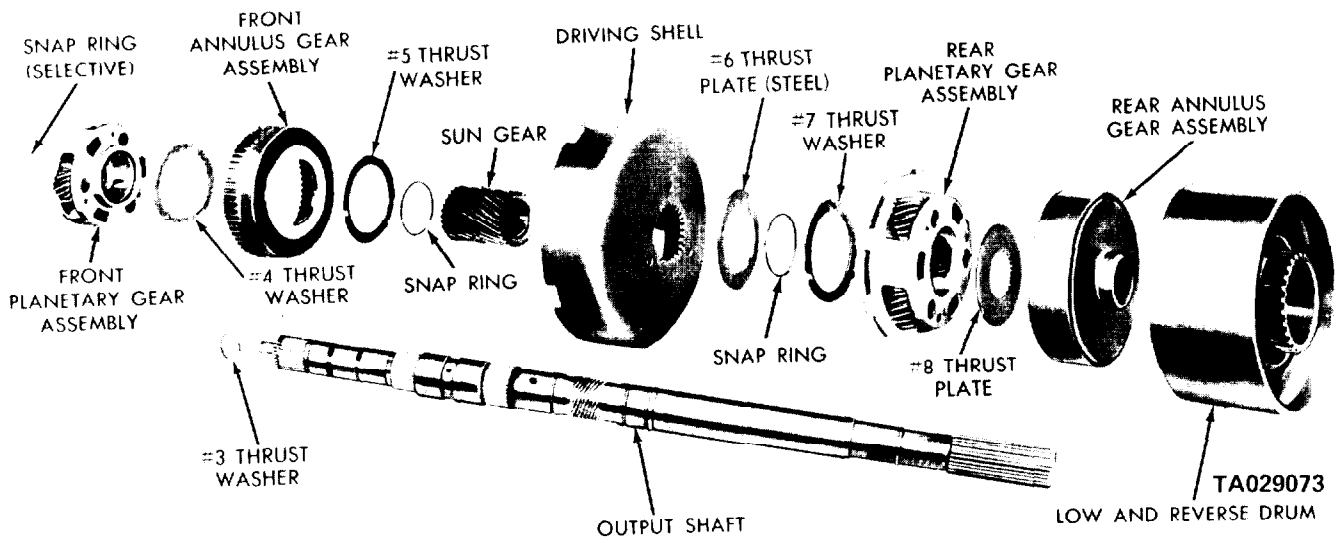
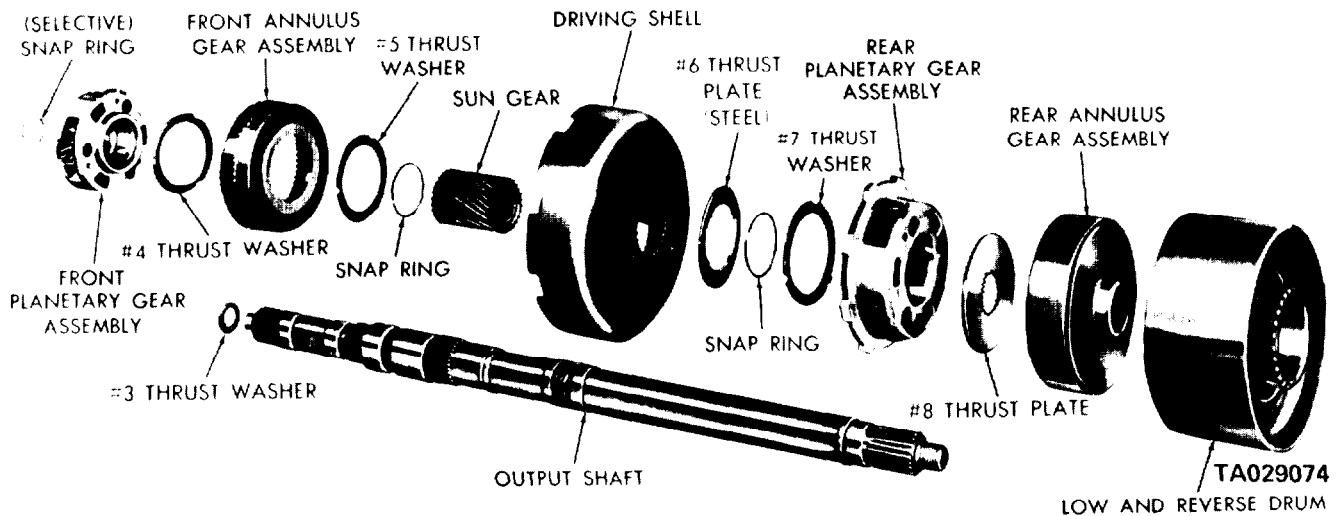
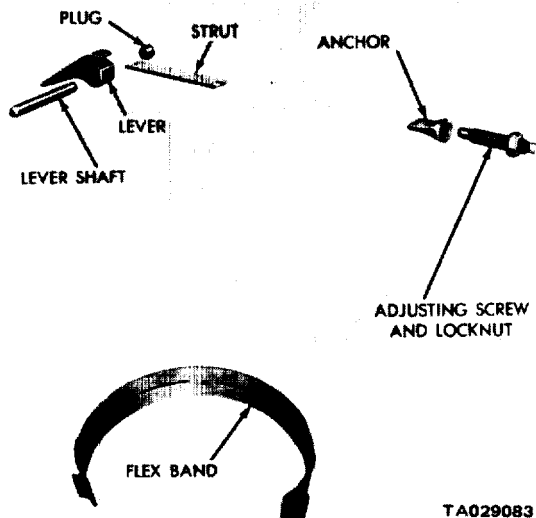

Figure 18-22. Planetary Gear Train and Output Shaft (4X2 Models).
Figure 18-23. Planetary Gear Train and Output Shaft (4X4 Models).
Figure 18-32. Kickdown Band and Linkage.
(1) Remove the thrust washer from the forward end of the output shaft (figure 18-22 for 4X2 models and figure 18-23 for 4X4 models).
(2) Remove the selective snap ring from the forward end of the output shaft. Slide the front planetary assembly off the shaft.
(3) Slide the front annulus gear off the planetary gear set. Remove the thrust washer from the rear side of the planetary gear set.
(4) Slide the sun gear, driving shell, and rear planetary assembly off the output shaft.
(5) Lift the sun gear and driving shell off the rear planetary gear assembly. Remove the thrust washers from inside the driving shell. Remove the snap ring and steel washer from the sun gear (rear side of the driving shell) and slide the sun gear out of the shell. Remove the front snap ring from
- (1) Inspect the bearing surfaces on the output shaft for nicks, burrs, scores, or other damage. Light scratches, small nicks, or burrs can be removed with crocus cloth or a fine stone.
- (2) Check the speedometer drive gear for any nicks or burrs. Remove them with a sharp-edged stone.
- (3) Make sure all oil passages in the shaft are open and clean.
- (4) inspect the sun gear bushings for wear or scores. Replace the sun gear assembly if the bushings are damaged.
(5) Inspect all thrust washers for wear and scoring. Replace them if they are damaged or worn beyond the limits given in table 18-3.
(6) Check the planetary gear carrier thrust faces for wear, scores, or other damage. Replace as necessary.
(7) Check the planetary gear carrier for cracks. Look for worn or broken gear teeth on the pinion lockpins.
(8) Inspect the annulus gear and driving gear teeth for damage.
(9) Replace distorted lockrings.
d. Assembly. See figure 18-23 for parts identification.
- (1) Install the rear annulus gear on the output shaft. Apply a thin coat of grease on the thrust plate. Place it on
f. *Front and Rear Clutch Assemblies.* The front and rear clutches, front band, oil pump, and reaction shaft support are more easily installed with the transmission in an upright position. One method to support the transmission is outlined in steps (1) and (2), below.
(1) Cut a 3-1/2-inch diameter hole in a bench, in the end of a small oil drum, or in a large wooden box strong enough to support the transmission. Cut or file the notches at the edge of the hole so the output shaft support will lay flat in the hole.
(2) Carefully insert the output shaft into the hole to support the transmission upright, with its weight resting on the flange of the output shaft support.
(3) Apply a coat of grease on the input to output shaft thrust washer (figures 18-22 and 18-23), and install the washer on the front end of the output shaft.
(4) Align the front clutch plate inner splines, and place the assembly in position on the rear clutch. Make sure the front clutch plate splines are fully engaged on the rear clutch splines.
(5) Align the rear clutch plate inner splines, grasp the input shaft, and lower the two clutch assemblies into the transmission case.
(6) Carefully work the clutch assemblies in a circular motion to engage the rear clutch splines over the splints of the front annulus gear. Make sure the front clutch drive lugs are fully engaged in the slots in the driving shell.
g. *Front Band.* Figure 18-32 shows a disassembled view of the kickdown band assembly. Assemble as follows:
(1) Slide the band over the front clutch assembly
(2) Install the band strut, and screw in the adjuster just enough to anchor the strut in place.